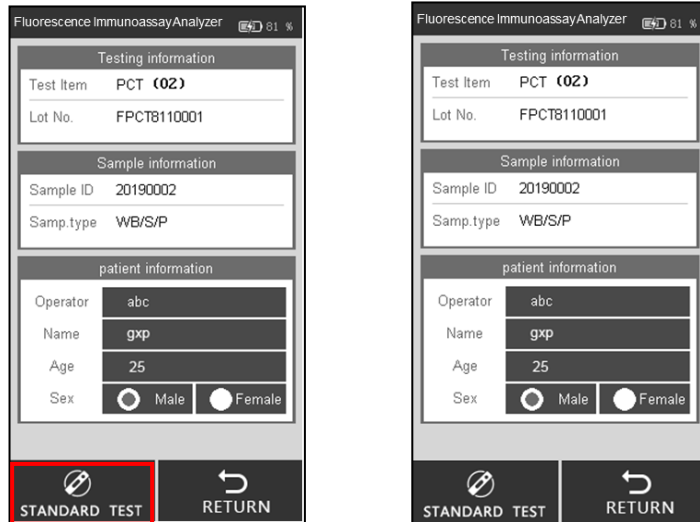

Fig 32
Step 7: Insert test Cassette into the slot immediately after sample addition (and buffer addition, if required) and click “**STANDARD TEST**”. The Analyzer will start to count down for incubation. Please wait for the pre-determined incubation time for each test. (Ref Fig 32)